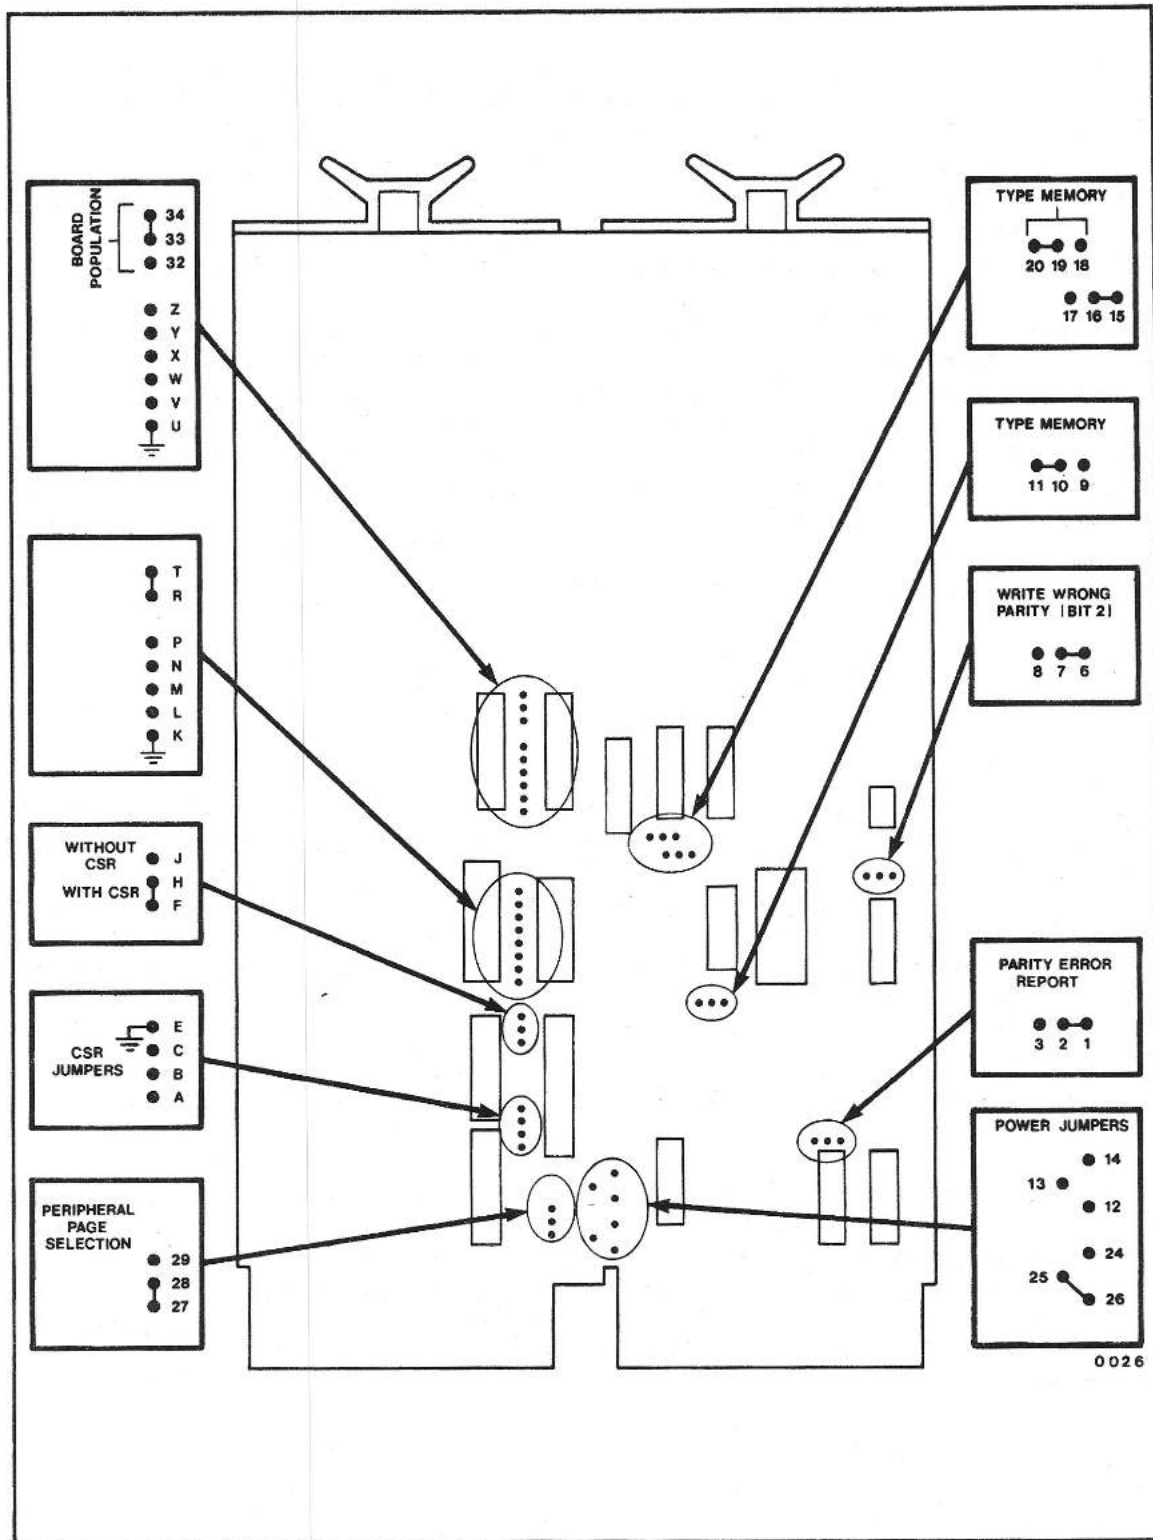

Fig. 4-3 Location of jumper pins on MSV11-LK
The following list of jumper connections summarizes the SMS-shipped configuration of the MSV11-LK. Refer to Figure 4-3 for location of jumper pins.
The various steps in strapping an MSV11-LK are described in Tables 4-8 through 4-11. Refer to Figure 4-3 for location of jumper pins.
(See Figure 4-3)
Continuing the example, from the above formula the PSA is calculated as $188 - 128$ or 60K. From Table 4-10 we see that a PSA of 60K requires strapping pins V, W, X and Y to pin U (ground). Note that the strapping rules require no more than two wire wraps per pin. Hence, these pins must be daisy chained and the last pin in line connected to pin U. Refer to Figure 4-3 for the location of the jumper pins.
1. WITHOUT BATTERY BACKUP. Refer to Figure 4-3 for location of jumper pins. Connect jumper pins 25 and 26. There is to be no connection to jumper pins 12, 13, 14, and 24. This is the SMS-shipped configuration.